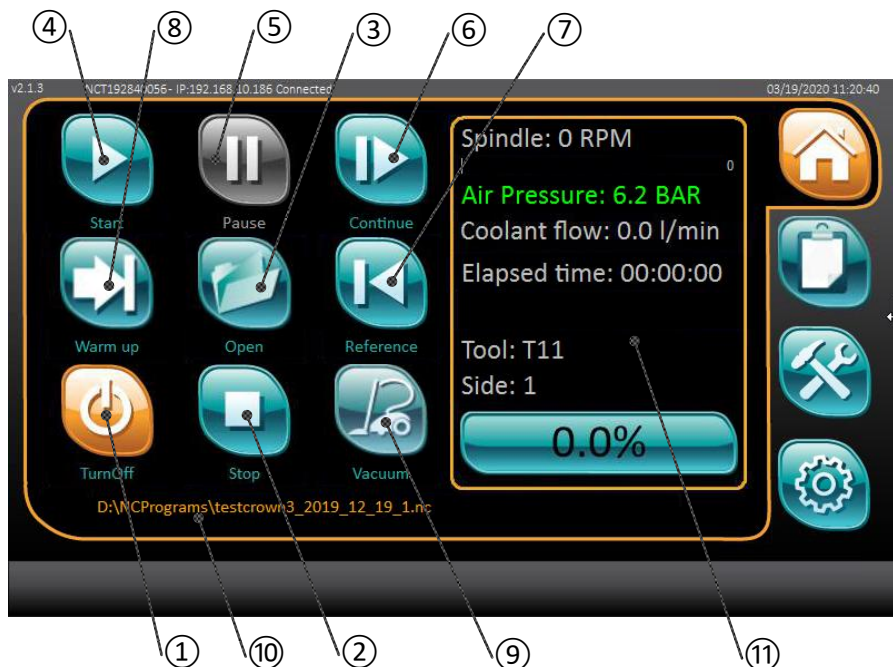
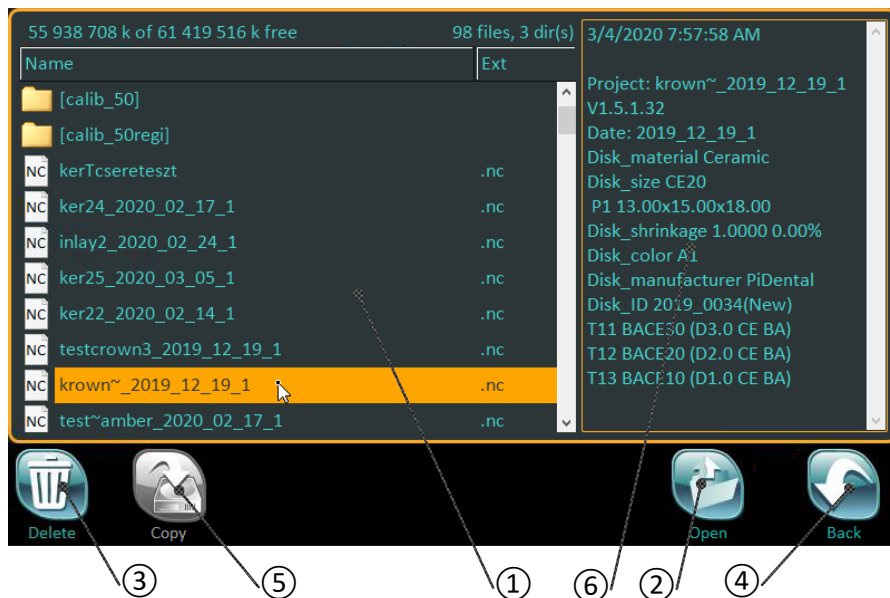

Figure 13 **Main page**
Figure 15 File-manager
- The Milling Unit is ready to turn on when the Main window *[Figure 13]* appears on the screen.
2. Touch the TURN OFF button  *[Figure 13 / 1]*.
3. Touch the Warm up button  *[Figure 13 / 8]*.
Touch open button  [Figure 13 / 3] to enter in file manager and open a milling process.
1. Select the program (.nc file extension only) to be run by touching it [Figure 15 / 1]. The [D:\] is the built in storage, the [E:\] is the USB drive.
2. Check the tooling and disk parameters in file-information window [Figure 15 / 7]. **Take care of tool positions as well as disk specification!**
3. Open the program [Figure 15 / 2].
After the opening of the program [Figure 15 / 2] the window switches back to the Main menu [Figure 13].
The actual program name shows on Filename bar [Figure 13 / 10]
In case you do not want to open a program you can exit the file manager by touching the BACK [Figure 15 / 4] button.
3. Select the program (.nc file extension only) to be run by touching it [Figure 15 / 1],
4. Check the tooling and disk parameters in file-information window [Figure 15 / 7]. **Take care of tool positions as well as disk specification!**
5. Open the program [Figure 15 / 2] or copy the program [Figure 15 / 5] to [D:\NCPrograms]. With the open button, you copy the program to the machine and open it, with copy you just copy the program, you have to open it manually.
When you manually delete a program [Figure 15 / 3] the program will be removed from the list irrevocably and permanently.
- Touch the START button  [Figure 13 / 4].
- You can follow the below processes on the status indication [Figure 13 / 11]:
PAUSE button  [Figure 13 / 5].
The paused (suspended) program can be continued from the actual position using the START button  [Figure 13 / 4].
- During the milling operation the program can be stopped (cancelled) by the STOP button  [Figure 13 / 2].
last tool change using the CONTINUE button  [Figure 13 / 6].
When the machine is not in milling mode the STOP button  [Figure 13 / 2] functions as **HOME** button. (see: **section 5.2.7.1.**)
Touch reference button  [Figure 13 / 7] to enter into reference page.